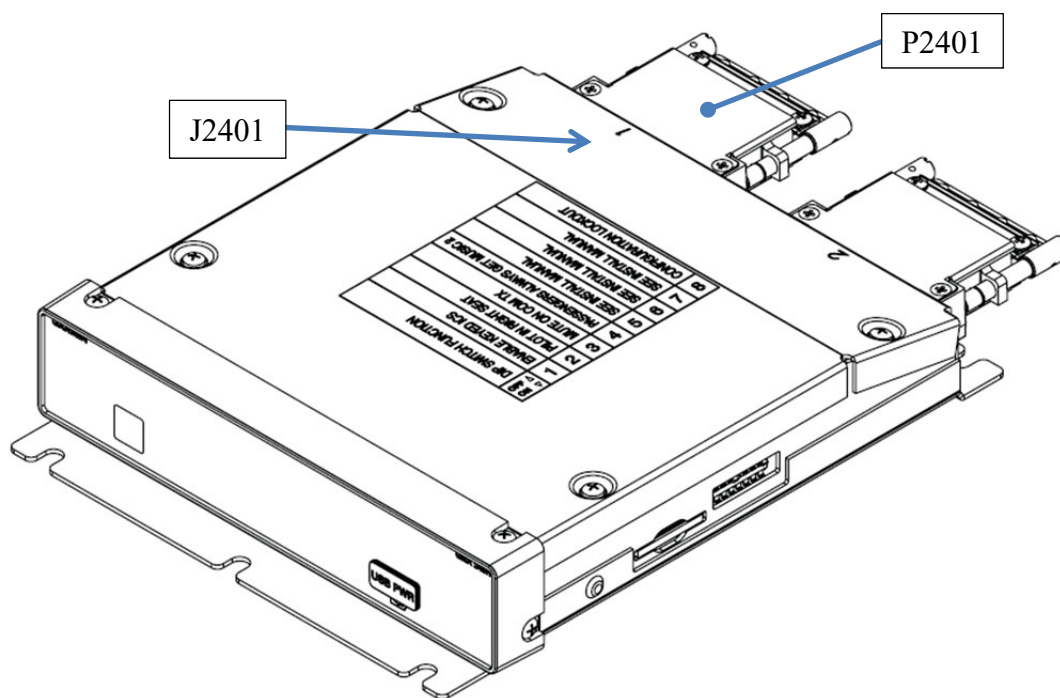
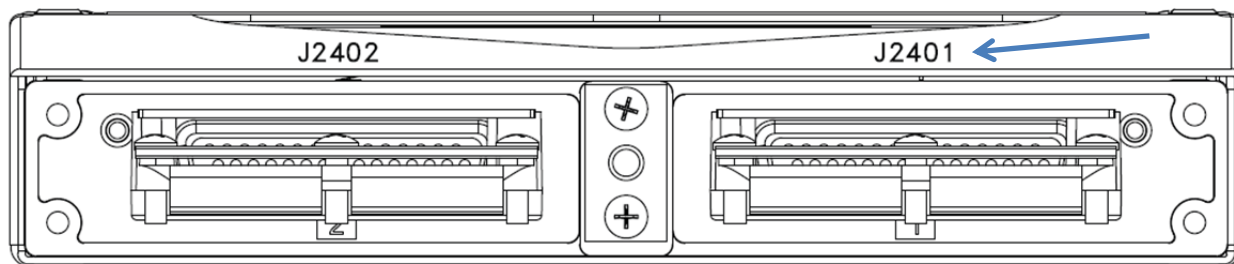

Figure 5: ISO View of Audio Panel and Connectors
Figure 6: Rear View of Audio Panel and Connectors
15. Gain access to GMA 245R wire harness plug P2401, refer to Figure 5 and Figure 6